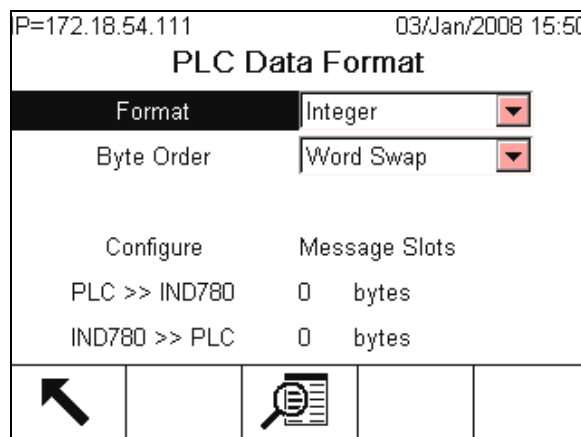

Figure 5-7: PLC Data Format Screen
1. From Setup, access Communication > PLC Interface > Data Format. Format may be selected from a drop-down list as shown in Figure 5-7. When Application format is selected, only the Format box appears on this screen.
4. The bottom of this screen (Figure 5-7) displays the number of bytes that will be sent by the IND780 and the number of bytes expected from the PLC.